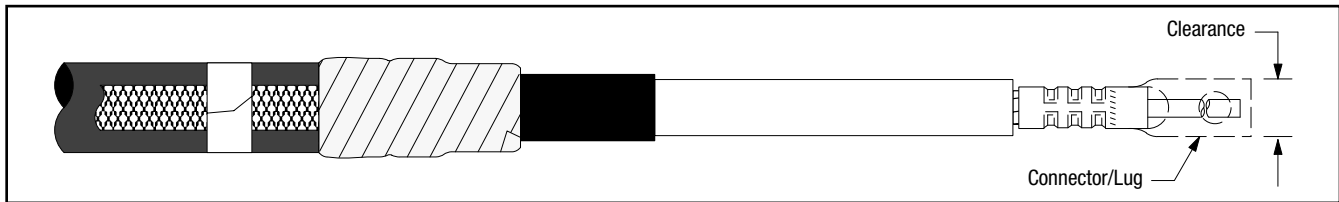

Figure 6
- 4.1 Check to insure 3M™ Cold Shrink QT-III Silicone Rubber Termination assembly fits over the selected lug or connector. If lug or connector (*Figure 6*) will not fit through the termination core, clean the insulation (*per Step 5.0*) and slide termination on cable before installing lug or connector. **DO NOT REMOVE CORE AT THIS TIME.**